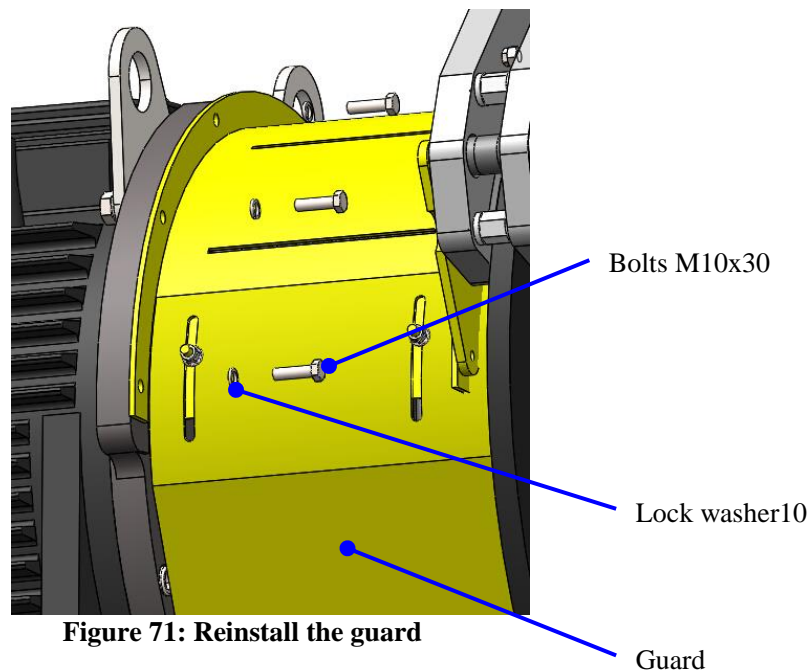

Figure 71: Reinstall the guard
16. Attach the ropes; test the machine and install the guard. See Figure 71.